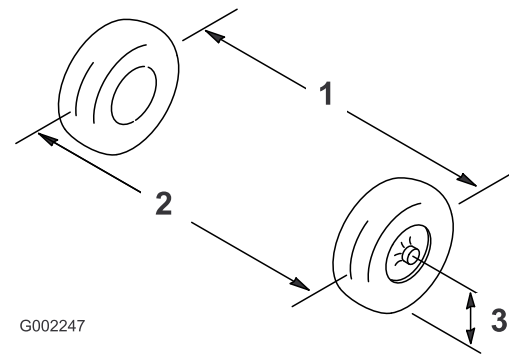

Figure 92
2. Measure the distance between of the front tires at the axle height at the front and rear of the front tires (Figure 92).